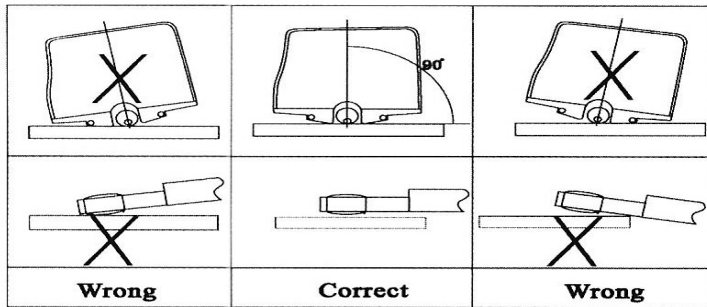

Fig. 4-1
- a) Be sure to set the unit flat as seen in **Figure 4-1**. The built in level indicator on the display will help you get set to "0".